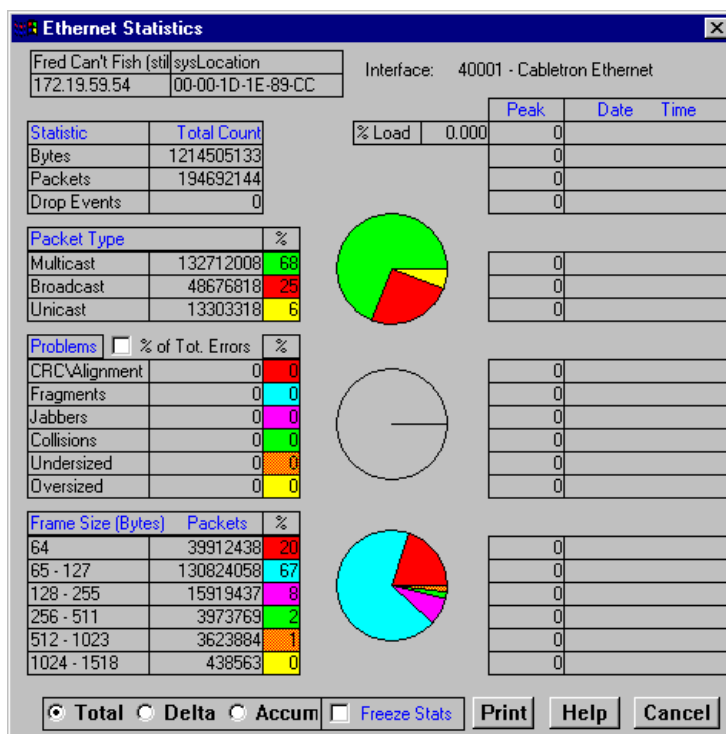
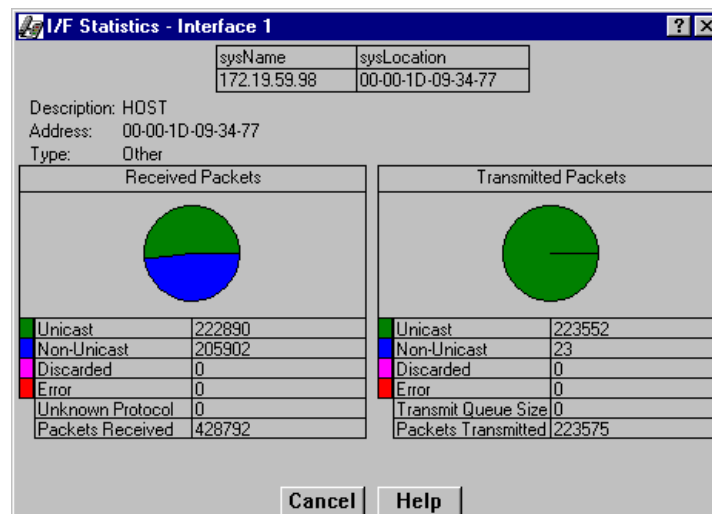

Figure 3-1. The Ethernet Statistics Window
Figure 3-3. Interface Statistics Window
2. Drag down to **Statistics**, and release. The RMON Statistics (Figure 3-1, page 3-2) or MIB-II IF Statistics window (Figure 3-3, page 3-7), as appropriate, will appear.
The RMON Ethernet Statistics window (Figure 3-1) provides a detailed statistical breakdown of traffic on the selected Ethernet network. Statistics are provided in both numerical and graphic format, and include peak values and the date and time they occurred.
The Interface (IF) Statistics window (Figure 3-3) provides MIB-II interface statistical information — including counts for both transmit and receive packets, and error and buffering information — for any port interface which does not support RMON, or whose RMON support has been disabled. A color-coded pie chart in the middle of the window lets you graphically view statistics for Unicast, Non-Unicast, Discarded and Error packets.